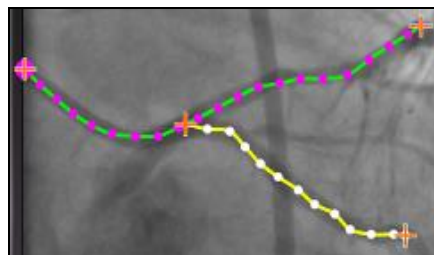

Figure 176. Completed branch in selected mode
- ② If the user starts on the curve and changes their mind about the starting point, right-click, and the point disappears. This is only true when starting a branch or trunk. If starting on an existing point, simply right-click elsewhere to deselect that point. Complete the drawing by double-clicking the distal point, and the branch will display in the selected mode, yellow and white, **Figure 176**.